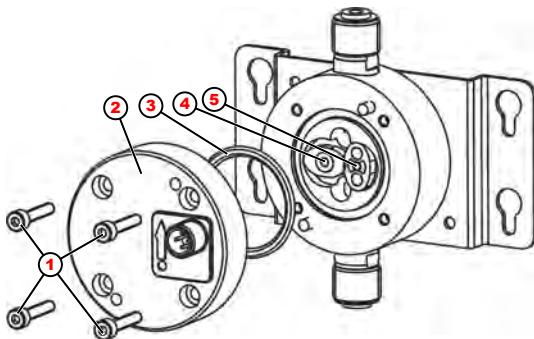

Fig. 5: Maintenance
1. Remove the four bolts (Fig. 5, Pos. 1) on the oval gear meter.
2. Remove the cover (Fig. 5, Pos. 2).
3. Remove the two oval gear wheels (Fig. 5, Pos. 4 + Pos. 5) and clean or replace them.
*It is recommended in all cases that the O-ring seal (Fig. 5, Pos. 3) between the cover and the housing should always be renewed.*